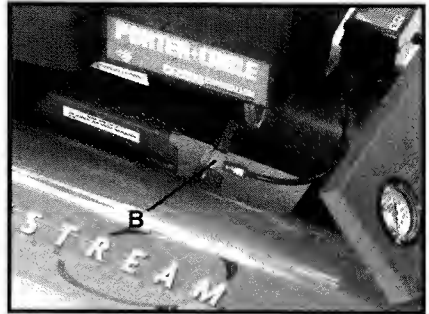

Fig. 2
Check Valve (B) Fig. 2: When the air compressor is operating, the check valve is "open", allowing compressed air to enter the air tank. When the air compressor reaches "cut-out" pressure, the check valve "closes", allowing air pressure to remain inside the air tank.